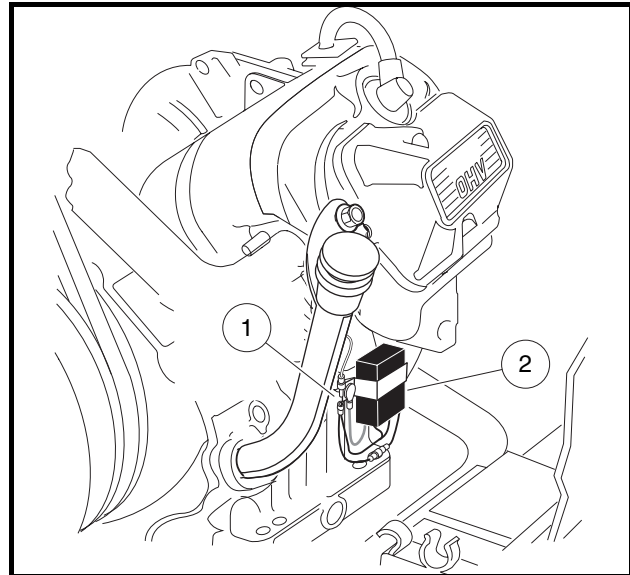

Figure 12-17 White/Black Engine Kill Wire
2. Disconnect the engine kill white/black wire at the bullet connector located next to the RPM limiter (Figure 12-17, Page 12-20).